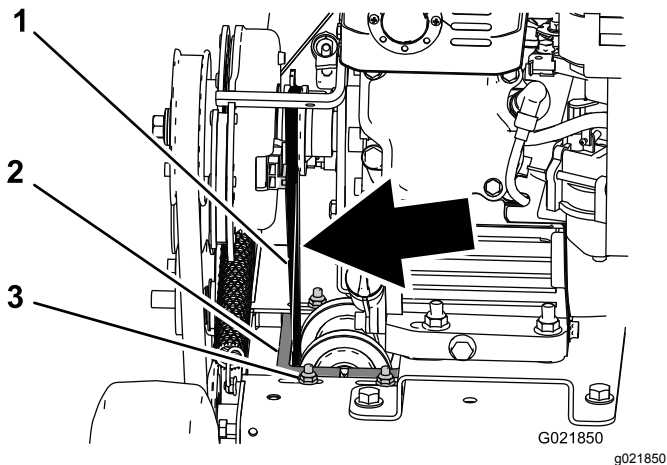

Figure 26
4. Check the tension of the belt. It should not flex more than a 6 mm (1/4 inch) with moderate finger pressure applied to the span just above the machine frame (Figure 26).
the frame, and move the carriage to the left, tightening the belt; then secure the 4 mounting nuts and bolts (Figure 26).